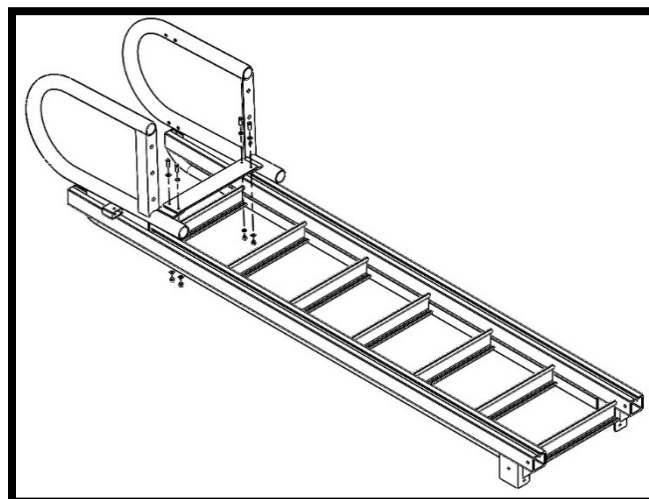

Figure 3
1. Attach Handrail Plate onto Dock Mount Arm (R) and Dock Mount Arm (L) using Hardware provided in Kit #2 to complete Front Plate assembly. See Figure 3.